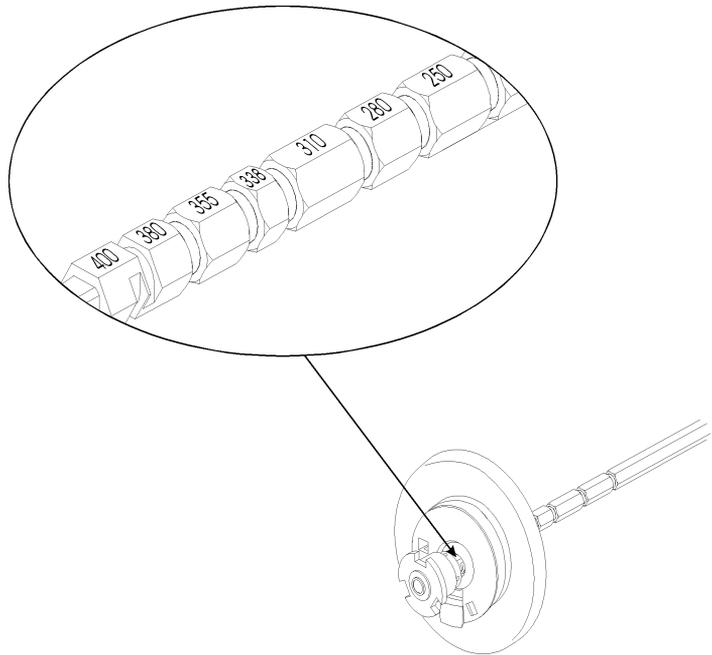

Fig.3
*When loading 400 mm media width, remove the left end bell from the shaft and position it so that the thumb release button is opposite from the engraved 400 mm indicator on the spool assembly shaft. (Ref: Fig. 3)